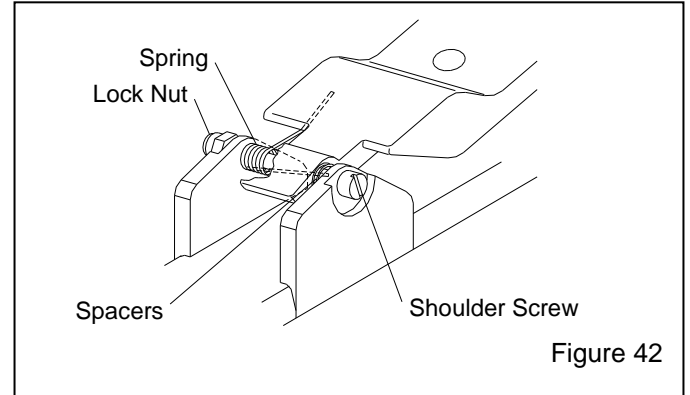

Figure 42
7.8.3 Handle lever replacement – Figure 42
7.8.3.1 Remove the lock nut from the shoulder screw. Before removing the screw, note the positions of the spacers and spring, as shown in Figure 42. The bent end of the spring goes against the handle lever, facing up. The straight end goes against the body, facing down.